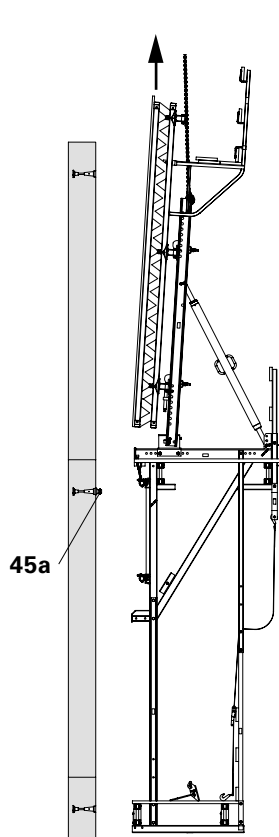

Fig. B4.03a
4. Lower the moving unit onto Scaffold Mounting Ring M24 (45b) evenly and without tilting until the lower points of pressure (6.7) of the bracket rest against the wall. Crane lifting gear remains tensioned. (Fig. B4.03a – B4.03d)